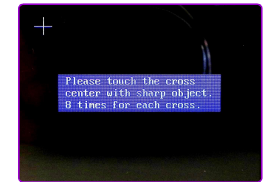

Fig. 10
- 2) Hold [P] button in Setup mode to enter touch panel calibration state, as shown in Fig. 10.